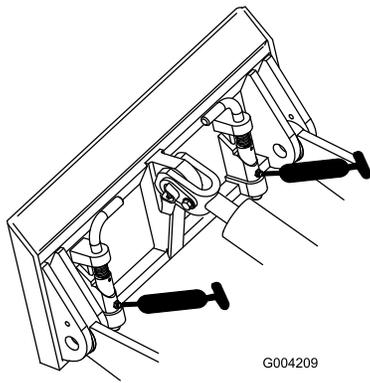

Figure 19
3. Connect a grease gun to each fitting (Figure 18 and Figure 19).